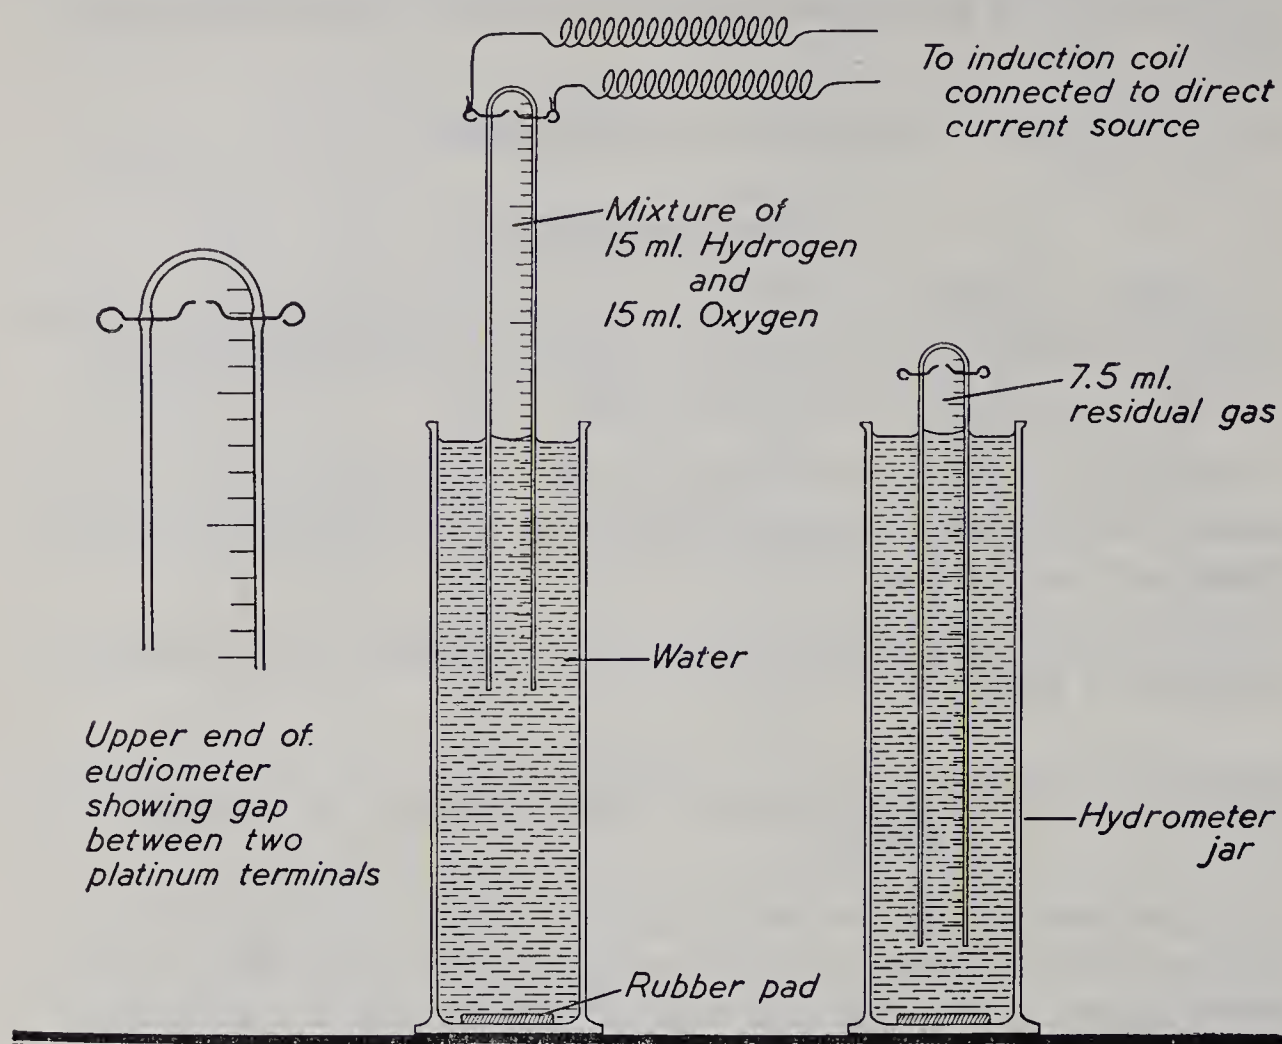

Fig. 40. Synthesis of water by volume in a eudiometer.
1. A eudiometer tube is used (Fig. 40). Because of the expense of the large volume of mercury required to fill the jar and tube, and the greater danger of breakage, it is suggested that water be used in place of mercury. Examine a eudiometer tube so that you will be able to describe it in detail. Fill the tube with water and invert it in a tall hydrometer jar also filled with water. Pass a small volume (e.g. 15 ml.) of hydrogen (from a hydrogen generator) into the tube. Lower the tube until the level of the water is the same inside and outside the tube. Accurately read the volume of hydrogen and record it. Add about the same volume (15 ml.) of oxygen (from an oxygen cylinder or generator) and again adjust the tube until the water levels are the same inside and outside the tube. Read and record the volume of the mixed gases.